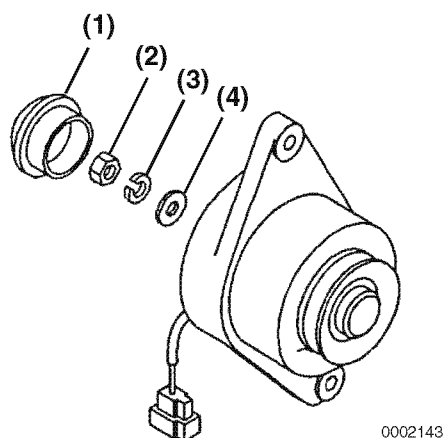

Figure 12-24
1. Remove the rear cover (Figure 12-24, (1)).
2. Remove the nut (Figure 12-24, (2)), lock washer (Figure 12-24, (3)), and flat washer (Figure 12-24, (4)).